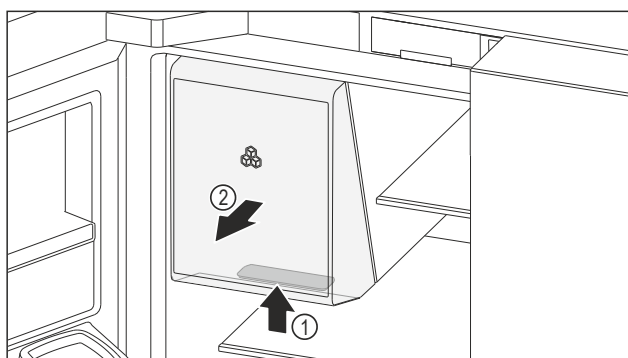

Fig. 168 Removal of the ice storage drawer
- ▶ Grip the handle recess Fig. 168 (1) on the bottom of the ice storage drawer and pull the ice storage drawer forward at the same time Fig. 168 (2).